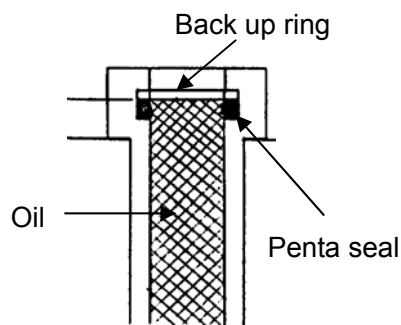

Figure 7-18
- g) Pour the oil in until its surface is level with the backup ring (Figure 7-18).